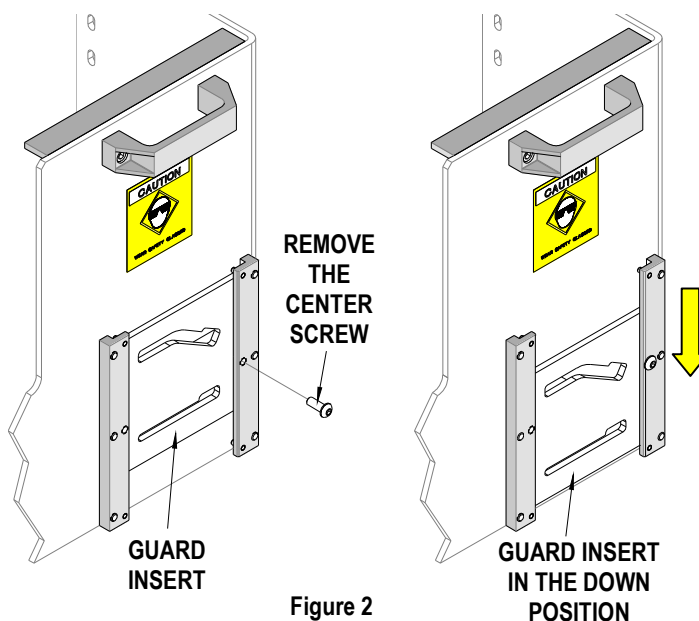

Figure 2
6. To operate a Crimp Module, the guard insert must be in the down position. To move the guard insert, remove the center screw and move the insert down. Be sure to replace the center screw. See Figure 2.